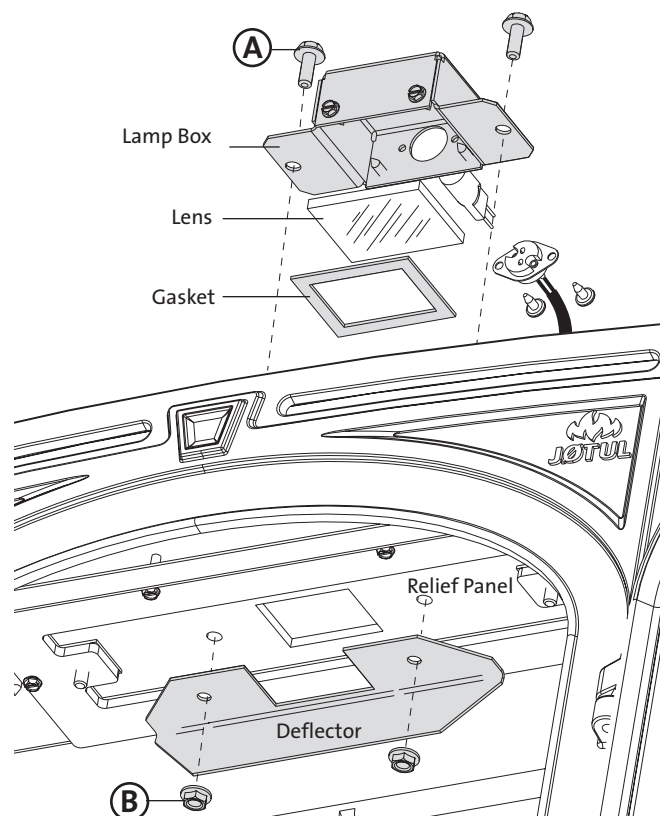
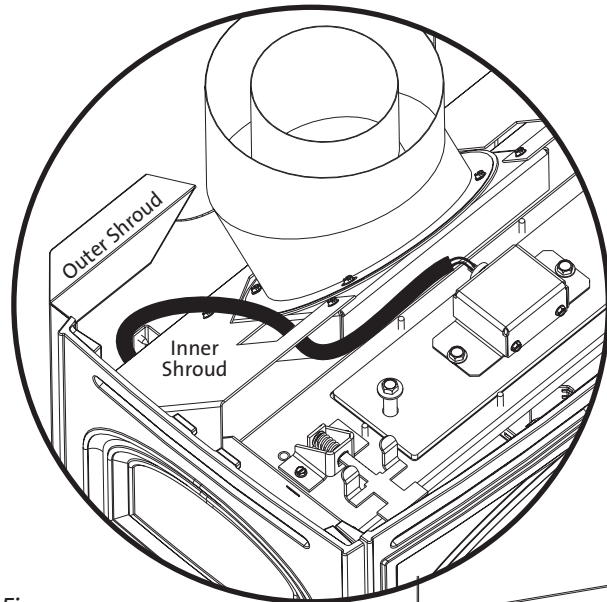

Figure 49. Accent Lamp installation.
Figure 50.a.
2. Remove the two flanged hex head bolts (A), nuts (B) and cover plate from the Relief Panel using a 10 mm socket or wrench. See fig. 49.
3. Position the Gasket, Lens, and Lamp Box on the top of the Relief Panel using the two bolts (A) previously removed.
4. Inside the firebox, attach the Light Deflector plate to the bolts on the underside of the Relief Panel using the nuts (B) previously removed.
5. Route the controls wire harness in between the inner and outer shrouds, and then through the opening in the base plate. Connect the harness to the (L) terminal on the rear of IFC board. See figs. 50 - 50a, page 28.